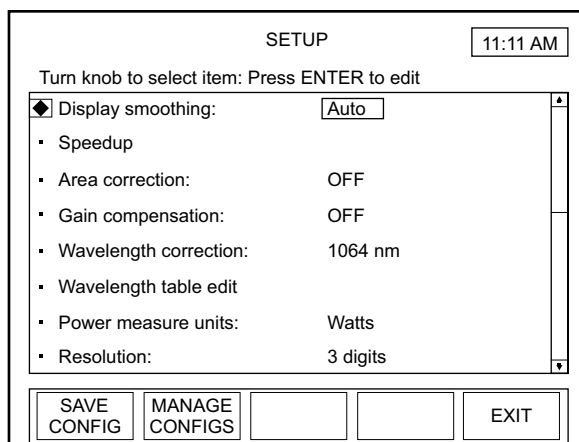

Figure 4-30. SETUP: Display Smoothing
2. Press the ENTER/SET button to highlight the editable field (Figure 4-30).